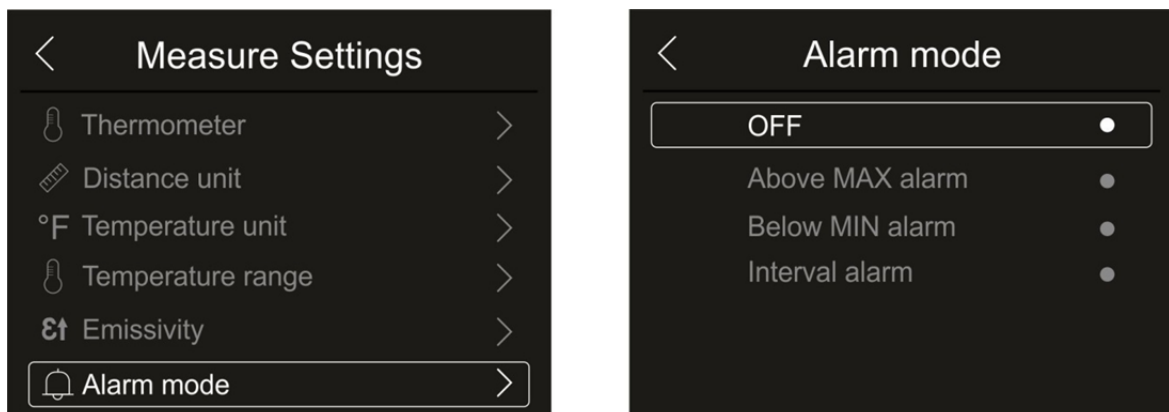

Fig. 28: Menu for Activation of alarm thresholds on measurements
1. Touch the item “Alarm mode” to activate the acoustic alarm thresholds on temperature measurement associated to the objects inserted onto the image (cursor, dots, lines and areas) associated to the “Alarm” function in the main menu (see § 5.3). The screen in Fig. 28 – right side appears on the display: